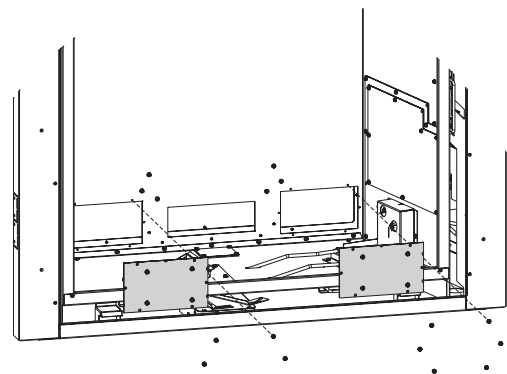

Figure 13
8. Replace Blower Bracket (w/ blowers attached) with (6) screws each. See **Figure 13**.